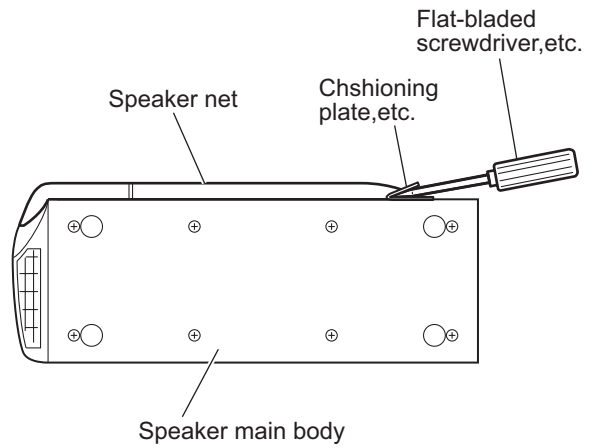

Fig.16
3.4.11 Removing the speaker net (See Figs.16 and 17)
- (1) From side of the speaker main body, insert the tip of the flat-bladed screwdriver or similar tool into the space between the speaker main body and speaker net, and lift the speaker net little by little to remove. (See Fig.16)